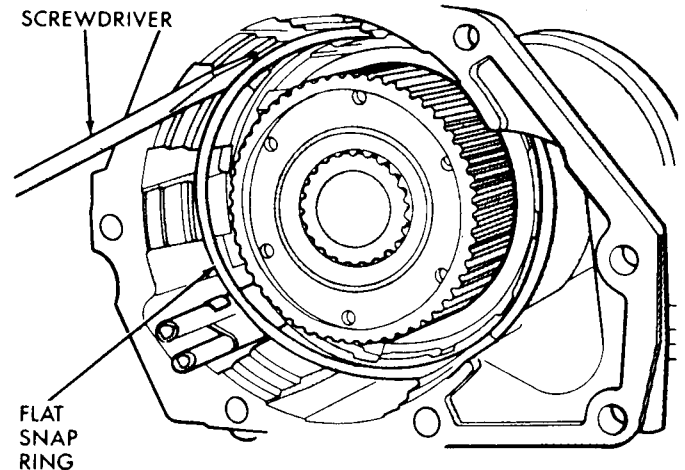

Fig. 6—Flat Snap Ring
(4) In the same groove, remove large flat snap ring. (Fig. 6).